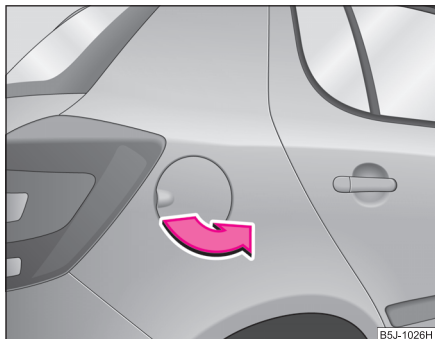

Fig. 139 Right rear side of the vehicle: Fuel filler flap
- Open the fuel filler flap with the hand ⇒ fig. 139.